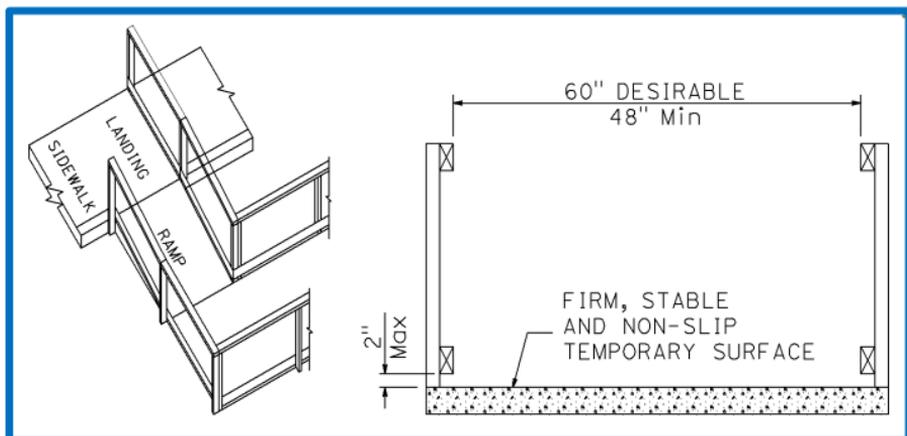

Figure 13 Channelized Temporary Pedestrian Route
- Pedestrians must be channelized when routed off existing pedestrian routes (See Figure 13.)